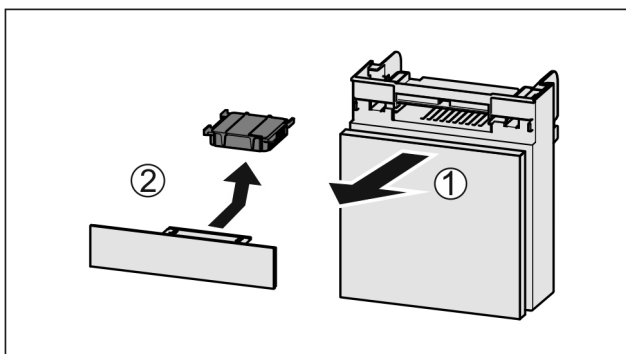

Fig. 180
- ▶ Pull out the compartment Fig. 180 (1).
- ▶ Remove the carbon filter Fig. 180 (2).